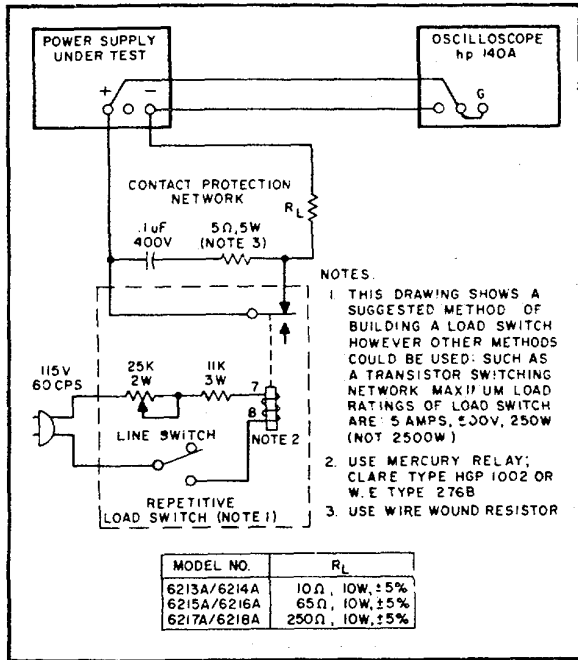

Figure 5-7. Transient Recovery Time, Test Setup
5-37 A mercury-wetted relay, as connected in the load switching circuit of Figure 5-7 should be used for loading and unloading the supply. When this load switch is connected to a 60Hz AC input, the mercury-wetted relay will open and close 60 times per second. Adjustment of the 25K control permits adjustment of the duty cycle of the load current switching and reduction in jitter of the oscilloscope display.
5-38 The maximum load ratings listed in Figure 5-7 must be observed in order to preserve the mercury wetted relay contacts. Switching of larger load currents can be accomplished with mercury pool relays; with this technique fast rise times can still be obtained, but the large inertia of mercury pool relays limits the maximum repetition rate of load
- Connect test setup shown in Figure 5-7.